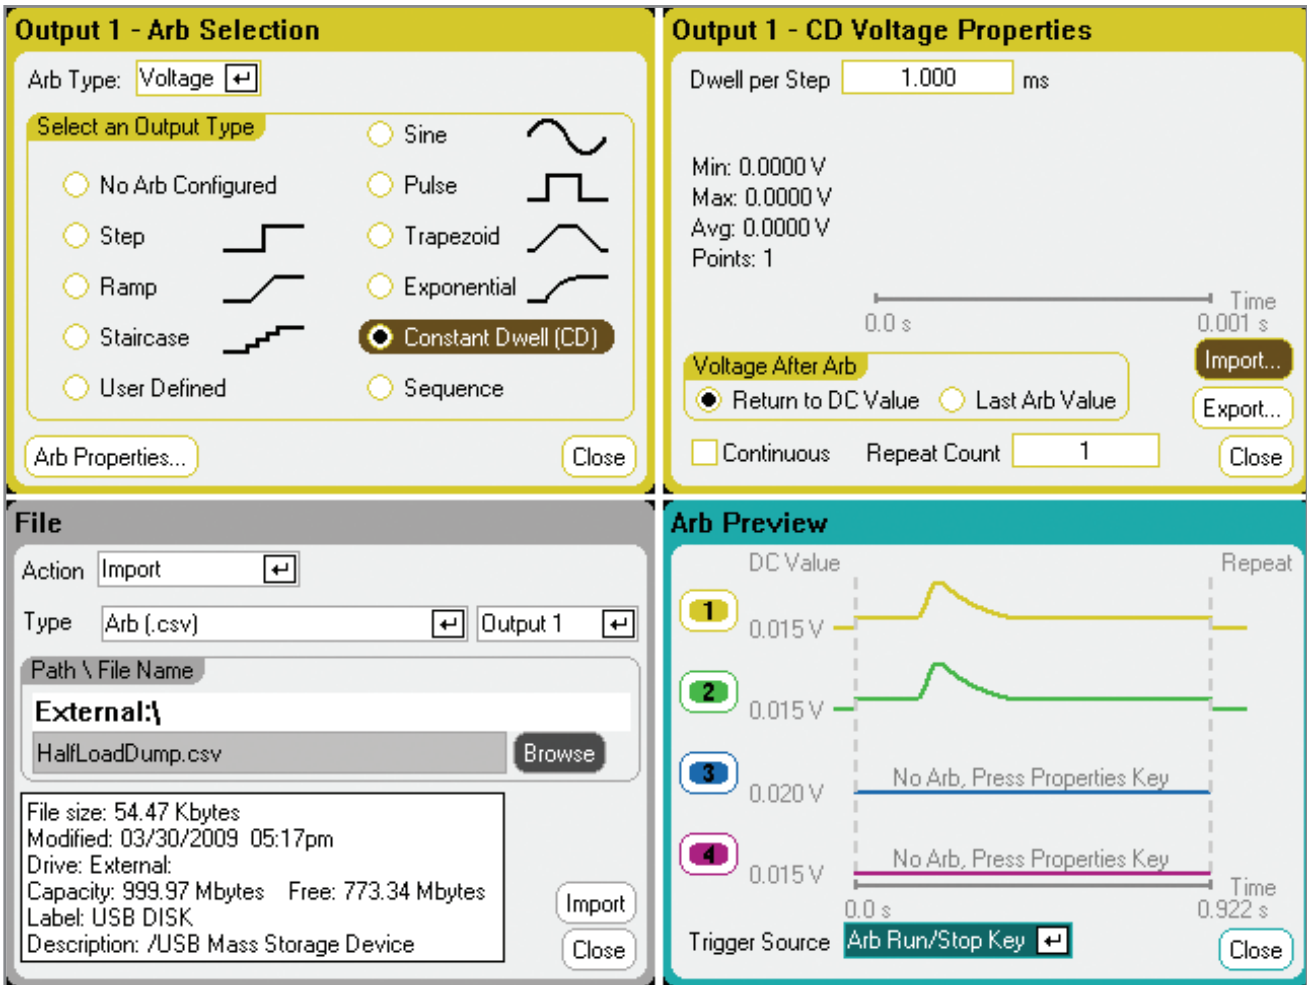

Figure 9. Load-dump arb waveform configuration
- Import load dump waveform to channel 1 and channel 2 see Figure 9 (below):
- Select **Channel 1**, navigate to the Output 1 – Arb Selection screen and select **Constant Dwell (CD)** output type.